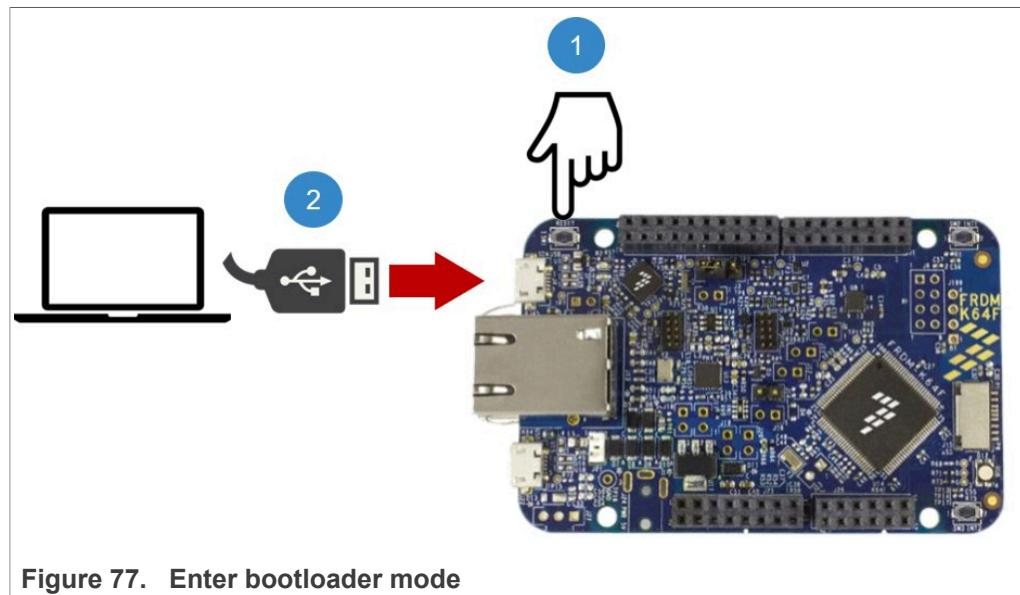

Figure 77. Enter bootloader mode
4. Start the board's bootloader mode. To do so, (1) keep reset button pressed while (2) connecting the USB cable to the SDA USB port and release it after 1s (Figure 77):